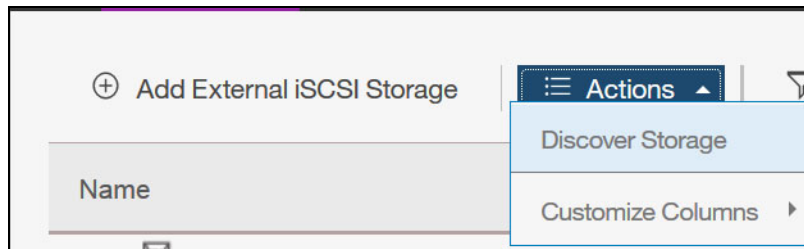

Figure 3-9 Detecting MDisks by using the SAN Volume Controller GUI
1. Detect the IBM FlashSystem A9000 or IBM FlashSystem A9000R volumes either by using the `svctask detectmdisk` CLI command, or use the SAN Volume Controller GUI that shown in Figure 3-9 and click **Pools** → **External Storage** → **Actions** → **Discover Storage**.